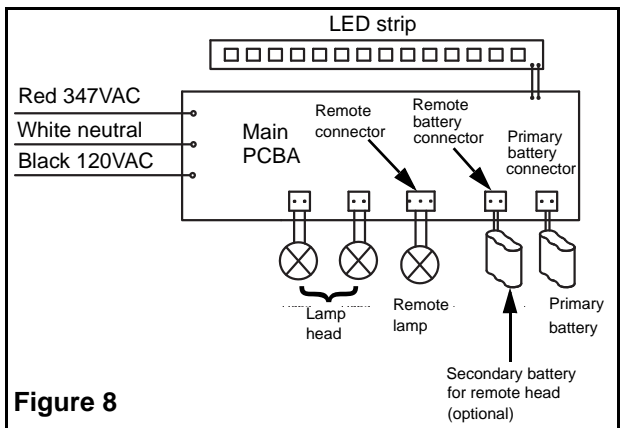

Figure 8
- e. Feed the AC supply leads out through the center hole and make the proper connections (See step 6 and Fig.8).
- d. Feed the unit wires through the canopy hole and make the proper connections (See step 6 and Fig.8).
6. Make the proper connections (see figure 8):